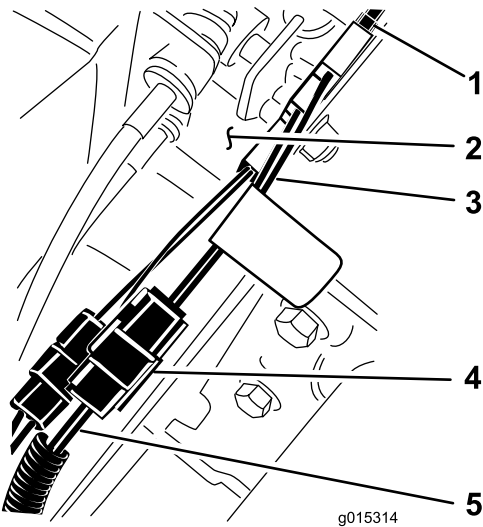

Figure 3
5. Connect the jumper harness to the switch and to the connector, with the blue and yellow wire, on the vehicle harness near the shift lever (Figure 3).